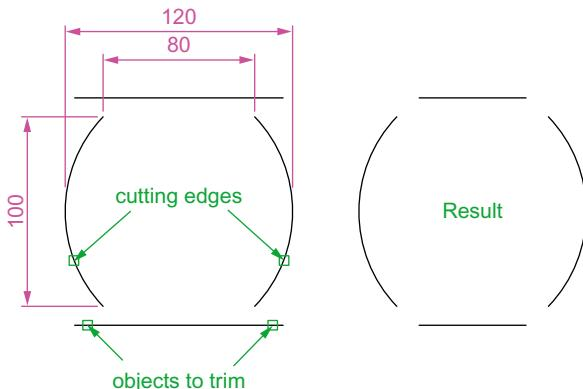

Fig. 5.32 Second example – Trim
### Second example – Trim (Fig. 5.32)
1. Construct the left-hand drawing of Fig. 5.32.
3. Repeat for the other required trims. The result is given in Fig. 5.32.